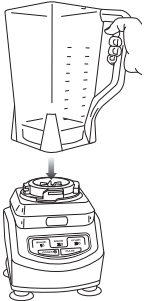

Fig. 1
- 2 Lower the pitcher or the bowl onto the motor base. **(Fig. 1)**